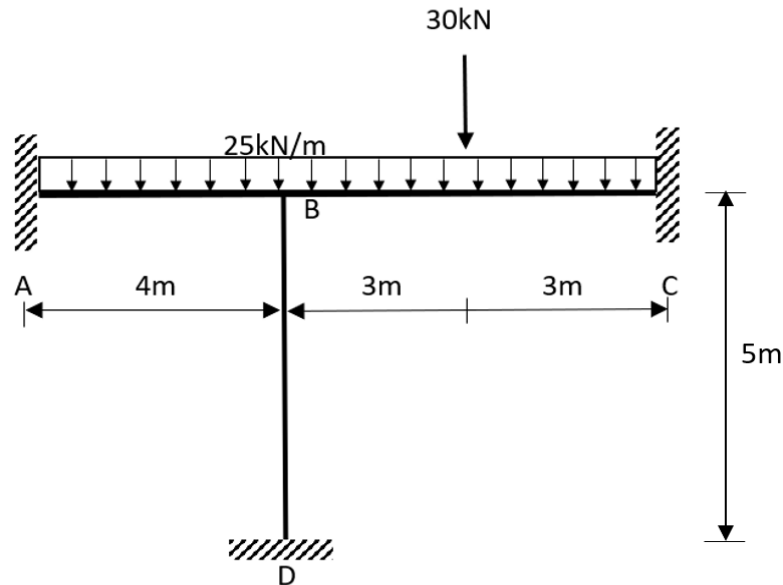

Figure B4(a)/ *Rajah B4(a)*
The structure shown Figure B4(a) is a non-swaying portal frame. EI is constant for each member.
- CLO1 (a) Identify the value of fixed end moment (FEM) for all spans in Figure B4(a).